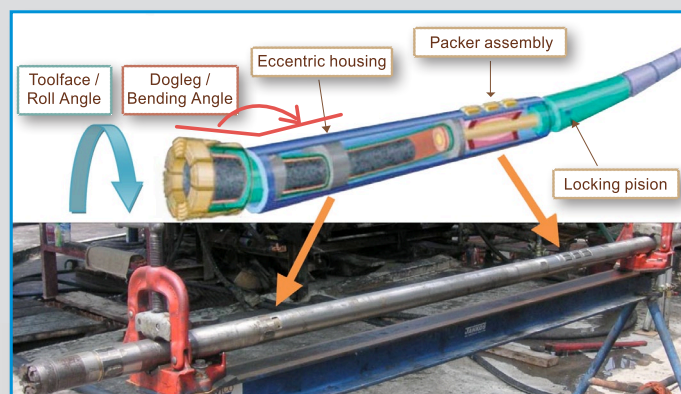

Figure 3 –
- Steerable drilling is carried out using steerable core barrel with wireline operating system. The drilling trajectory is navigated by the “toolface angle” (i.e. roll angle) that controls the drilling direction, and the “dogleg angle” (i.e. bending angle) that controls the curvature of the trajectory. The straight section of the coring will be drilled by conventional wireline system, and the deviated section will be drilled by the steerable wireline system. **Figure 3** illustrates the key components of the steerable core barrel.